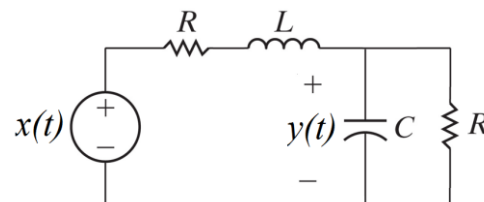

Figure 2: RLC Circuit
- Derive the governing differential equation in standard form for the circuit in Figure 2 and state the static gain, natural frequency and damping ratio.